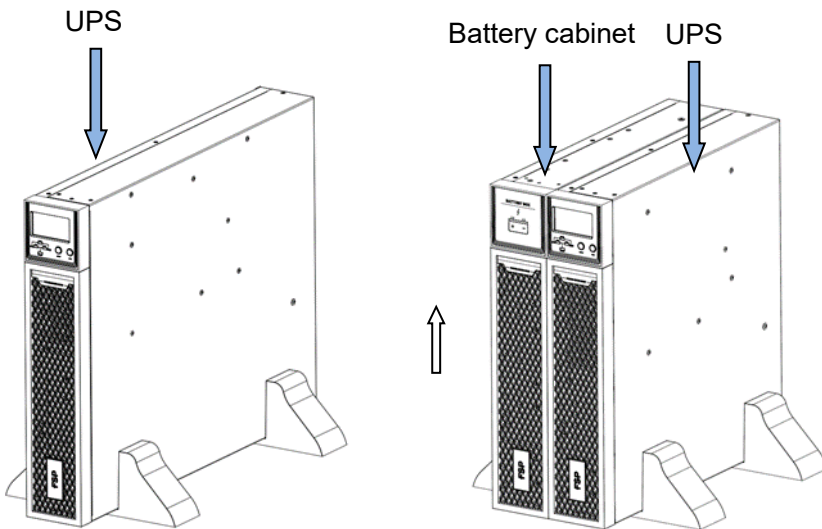

Figure 5-6 Tower installation
- ③ Install the left and right plastic panels back to the UPS. At this point, the UPS operation display panel and LOGO have been rotated 90 degrees clockwise to provide users with a vertical view.
- 4) Place the UPS (and battery cabinet) on the support base. Each UPS requires two sets of support bases, as shown in Figure 5-6.